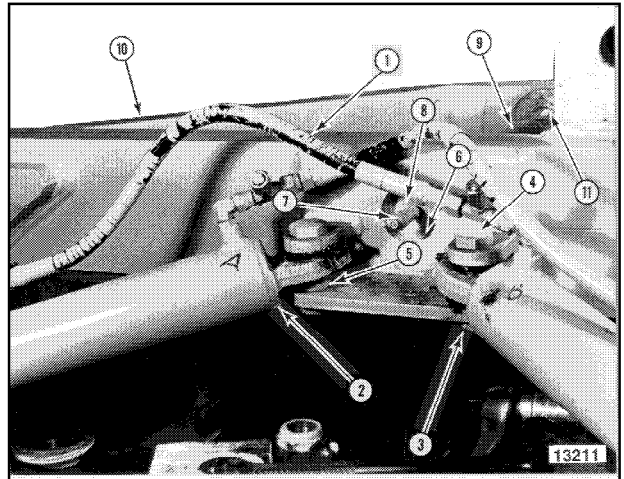

Figure 34
21. Tag and remove hoses (1, Figure 34) from steering cylinders (2). Remove lock nut (3), stud (4) and two spacers (5) from base end of each steering cylinder. Remove steering cylinders.
22. Remove two retaining rings (6, Figure 34), grease zerks (7) and cover plates (8).
23. Drive pivot pin (9, Figure 34) from weldment (10), remove two thrust washers (11).